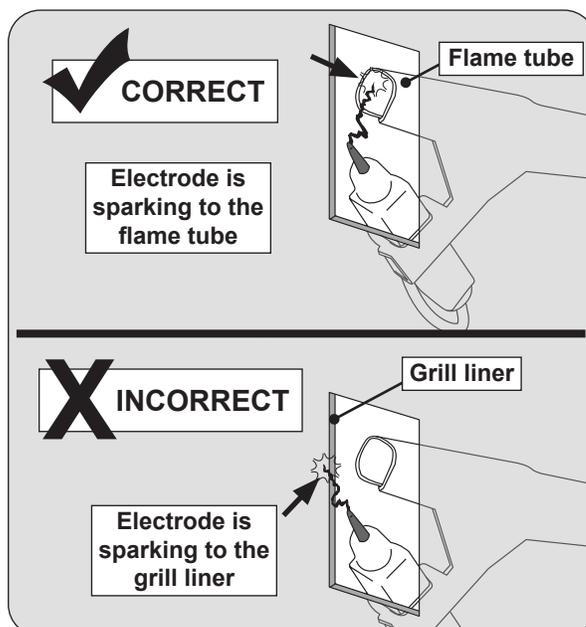

Fig. 2-4 Electrode spark- CORRECT vs INCORRECT
- Test the electrode spark for proper ignition:** When the manifold is installed, ensure the electrodes on ALL valves are sparking to the flame tubes of the valve assemblies, NOT the grill liner. To test this, reinstall the control knobs to their corresponding valve stems (with the control panel removed). Test the ignition by pushing in and turning the control knob. If the electrode is sparking to the grill liner, adjustment of the manifold positioning or manually adjusting the flame tube will be needed until the flame tube and electrode is as centered as possible to the liner cutout. Carefully adjust the tube with your hand or with a tool and retest the ignition until the electrode is sparking to the flame tube. See Fig. 2-4.